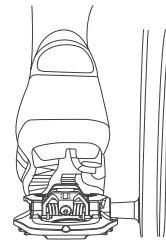

Figure 5. Test engagement by rolling
- Check the engagement by attempting to roll your shoe from the pedal (Figure 5). If your shoe rolls off the pedal, start over.